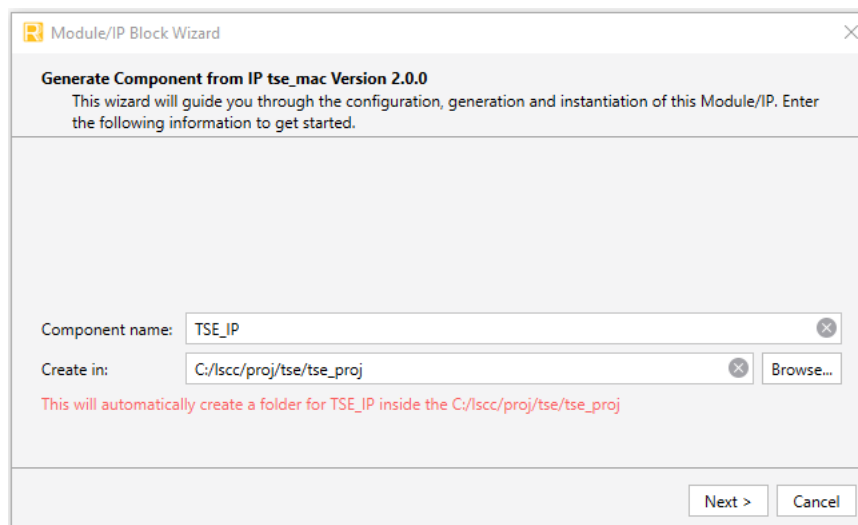

Figure 7.1. Module/IP Block Wizard
2. In the **IP Catalog** tab, double-click **Tri-Speed Ethernet** under **IP, Connectivity** category. The **Module/IP Block Wizard** opens as shown in Figure 7.1. Enter values in the **Component name** and **Create in** fields and click **Next**.
- Click **Finish**. All the generated files are placed under the directory paths in the **Create in** and the **Component name** fields shown in Figure 7.1.